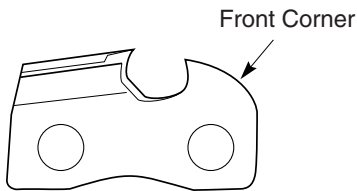

Figure 22 - Round Off Front Corner Of Depth Gauges
3. Remove depth gauge filing tool. With flat file, round off front corner of cutter depth gauges (see Figure 22).